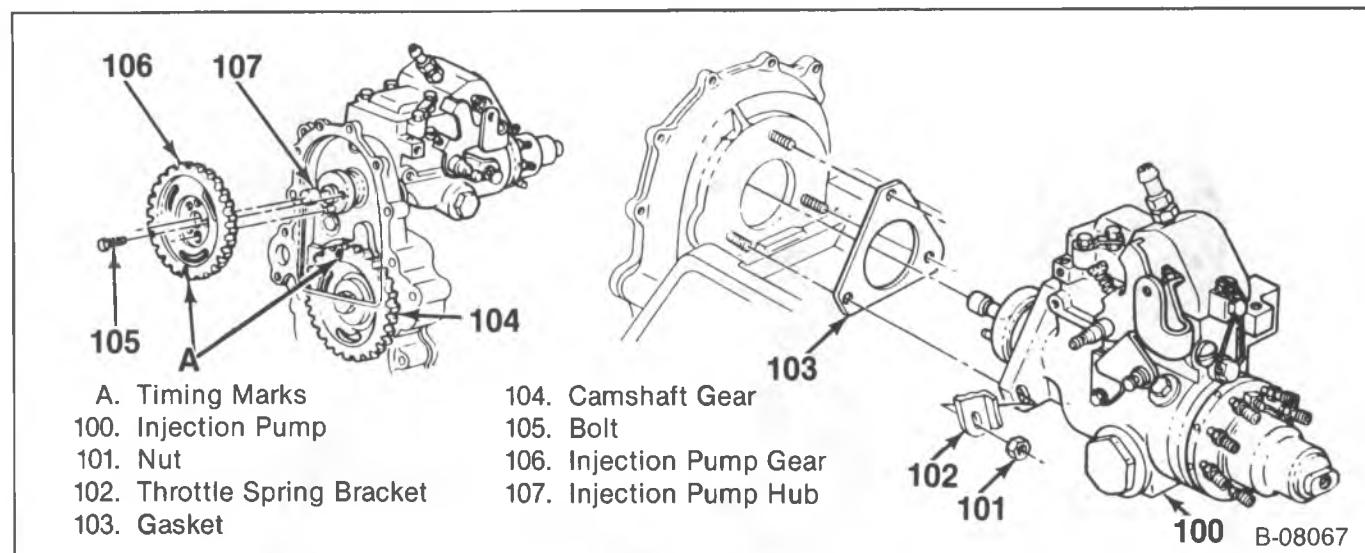

Figure 44—Injection Pump
3. Set the injection pump gear (106) (figure 44) in place, aligning the timing marks on the injection pump and camshaft gears, as shown. The slot in the injection pump gear should be in the vertical 6 o'clock position (figure 41). If not, remove J 33042 and rotate the engine crankshaft 360 degrees.
Install or Connect (Figure 44)
- Align the timing marks (figure 44).
- Bolts (105).
Tighten (Figure 44)